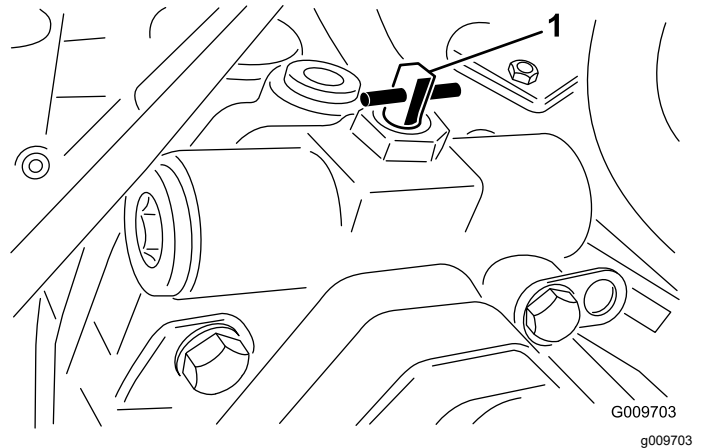

Figure 45
7. Open the tow bypass valve of the traction pump by rotating it 90° (1/4 turn) in either direction (Figure 45).
2. Open the tow bypass valve of the traction pump by rotating it 90° (1/4 turn) in either direction (Figure 45).